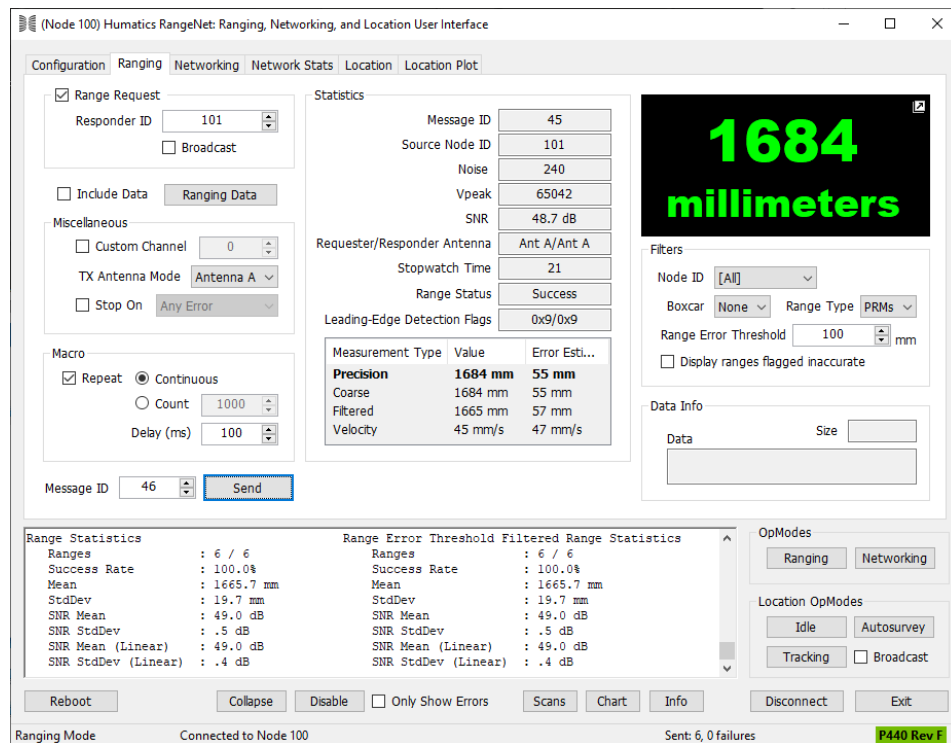

Fig. 11: Illustration of a range measurement
5. Click **Send**. If the range measurement was successful, you will see a confirmation message in the status window ("Range Status from 101: Successful"). An example is shown in **Figure 11**. The range measurement and associated statistics will update at 10 Hz. If, for some reason, the range measurement is consistently unsuccessful ("Range Status: Timeout Error"), then make sure that there is nothing blocking either of the antennas, that the antennas are really both on Port A, and that unit 101 is actually functioning. To change the units of measure, double-click in the black area of the range display. Each double-click will cycle the reported measurement type (millimeters, meters, and feet). The last setting will be saved such that the next time you enter the RangeNet GUI you will be using the same units.